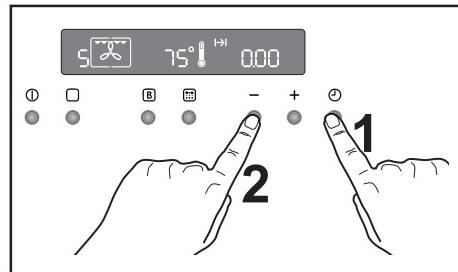

Fig. 10
- press button ① until the symbol ► will flash.
- press button "—" to decrease the time until "0.00" is displayed (Fig. 10).